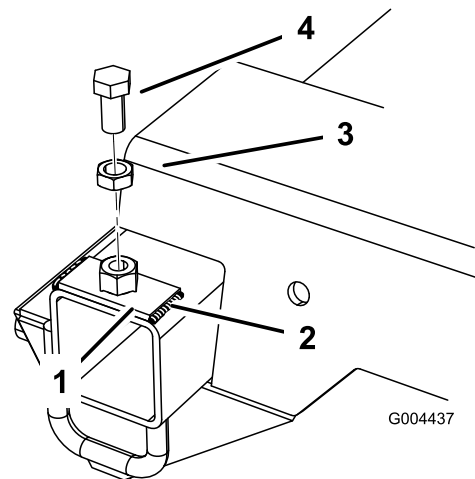

Figure 5
4. Weld the new plate to the frame with a quarter inch fillet on the left and right sides of the plate (Figure 5). Once cooled, the bolt (1/2 x 1 inch) and jam nut (1/2 inch) can be removed.